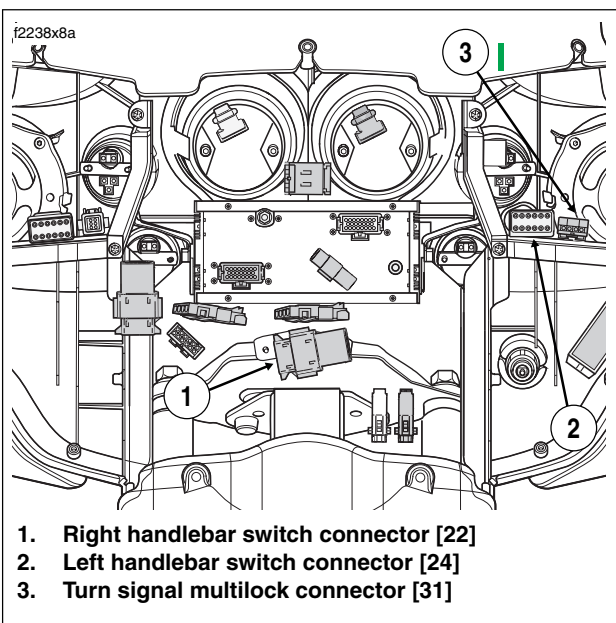

Figure 2-10. Turn Signal and Cruise Switch Connectors
5. See Figure 2-10. Separate handlebar switch connectors [22] and [24] and turn signal multilock connector [31].